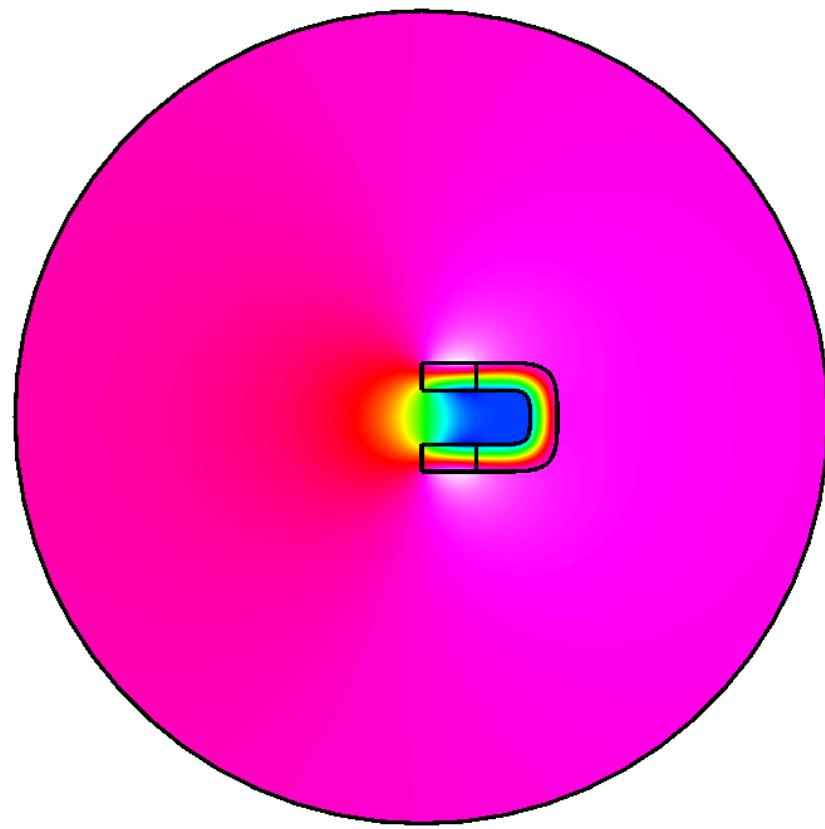

Figure 8.2: The vector potential of the magnetic field.
The resulting z-component of the vector potential is depicted in Figure 8.2. The corresponding postprocessed magnetic field intensity is depicted in Figure 8.3. Note that the derived fields is enforced to be continuous by default which is not optimal for visualization. For optimal results use Discontinuous Galerkin (DG) method for the postprocessing. Note that when using DG the postprocessing should be done with .vtu files and Paraview. The postprocessing tools of Elmer cannot deal with elementwise-fields.